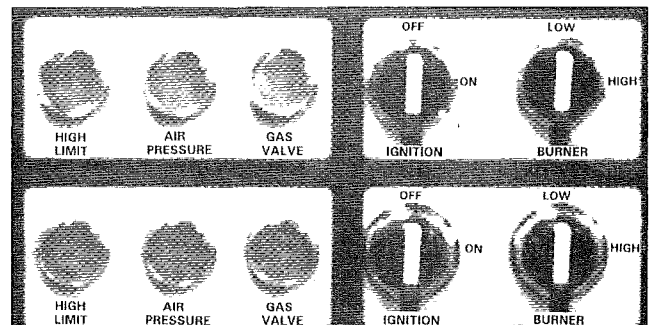

Figure 46
When ignition occurs and a flame is present, the ignition board flame monitoring system will continue to operate but the spark will shut off. If there is a flame failure, the ignition board will "lock out" (after a (7) second trial for ignition) closing the gas solenoid valves. The gas valve indicator light on the control panel will be out. Turn the ignition switch to OFF, then to ON for another "trial for ignition." See Figure 46.